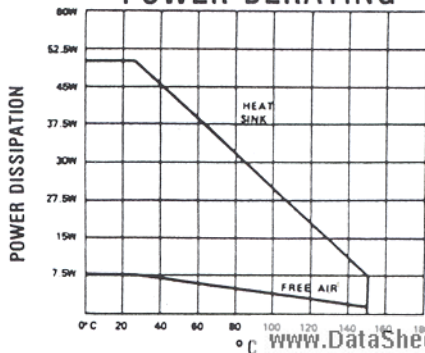
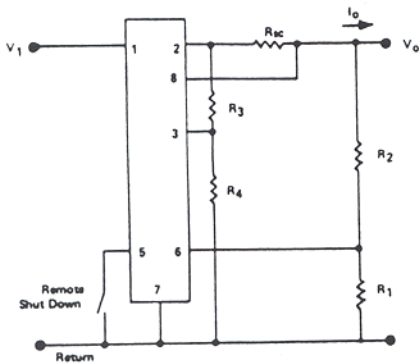
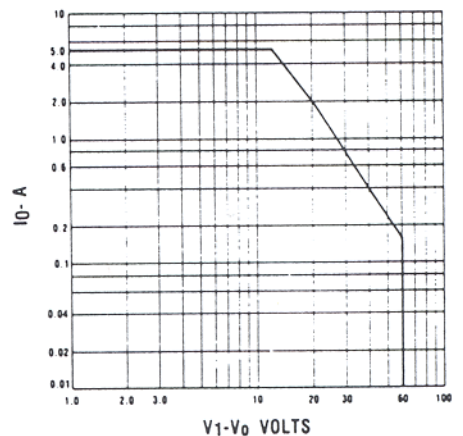

FIGURE 10
FIGURE 13
FIGURE 14
- Current limiting capability is provided on the CJCA 007 and CJCA 008. R_{sc} may be selected to limit I_O and I_{sc} as shown in Fig. 13. The user must be sure that the dissipation rating is not exceeded in worst-case operation (see Fig. 10). Also, for $V_1 - V_O (= V_1$ for a shorted load) greater than 20 volts, a further limitaton is second breakdown of the pass transistor (see Fig. 14).